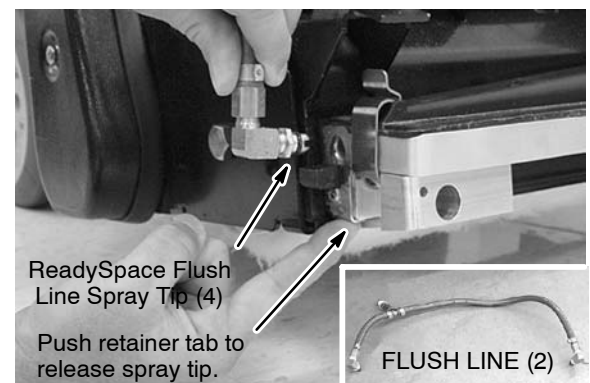

FIG. 36
4. Inspect the spray tip pattern in the two ReadySpace flush lines (4 spray tips). If tips are clogged, remove the flush lines and soak them in an acetic acid solution for up to six hours (Figure 36). Do not remove tips from flush lines.